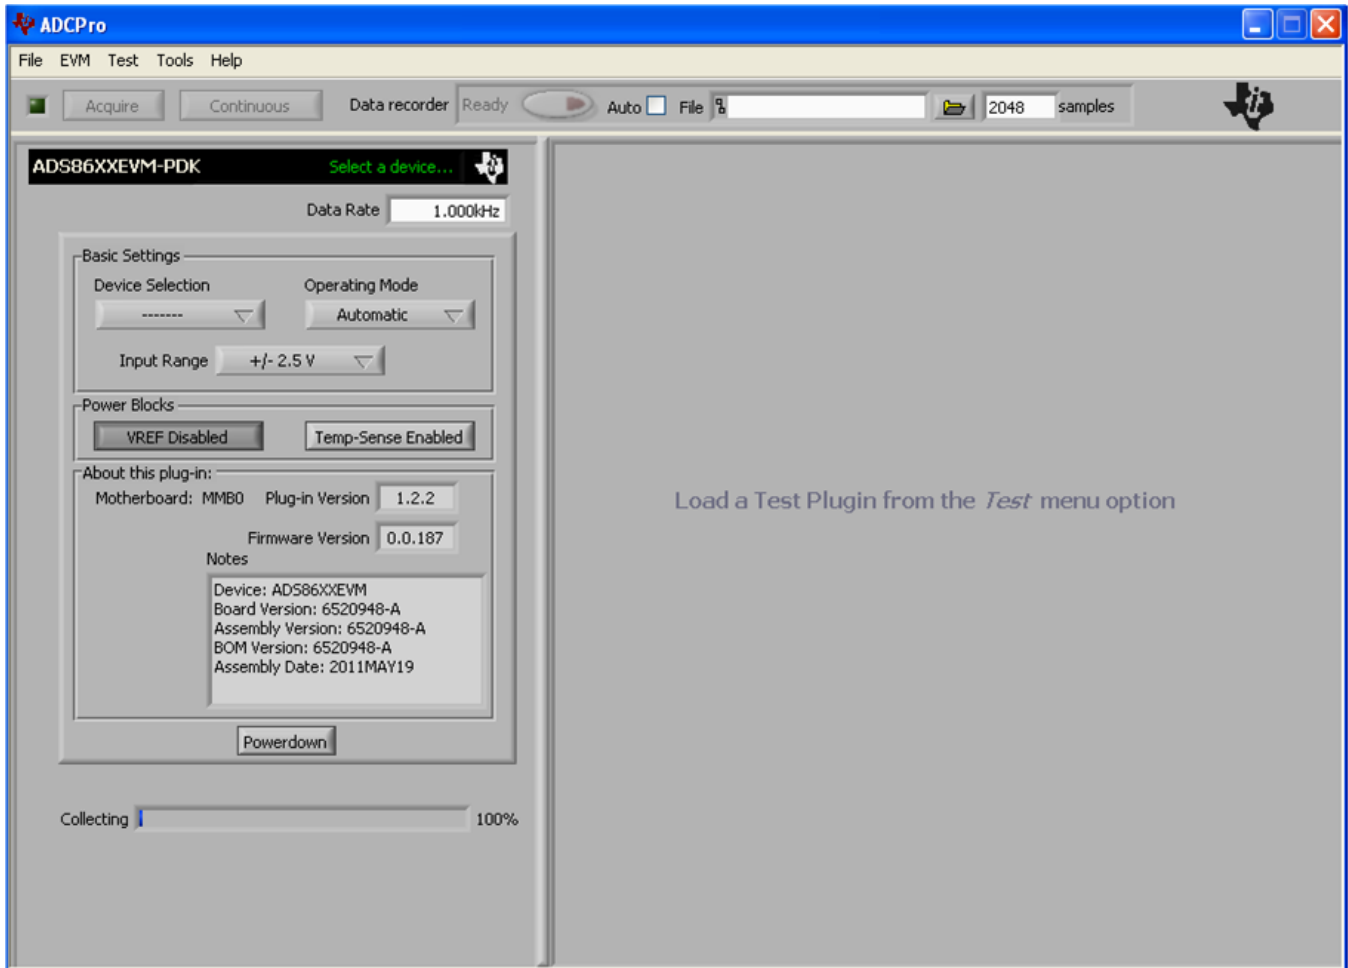

Figure 8. ADS86xxEVM-PDK Plug-in
2. Select ADS86xxEVM from the EVM drop-down menu. The ADS86xxEVM-PDK plug-in appears in the left pane. The setup is shown in Figure 8.